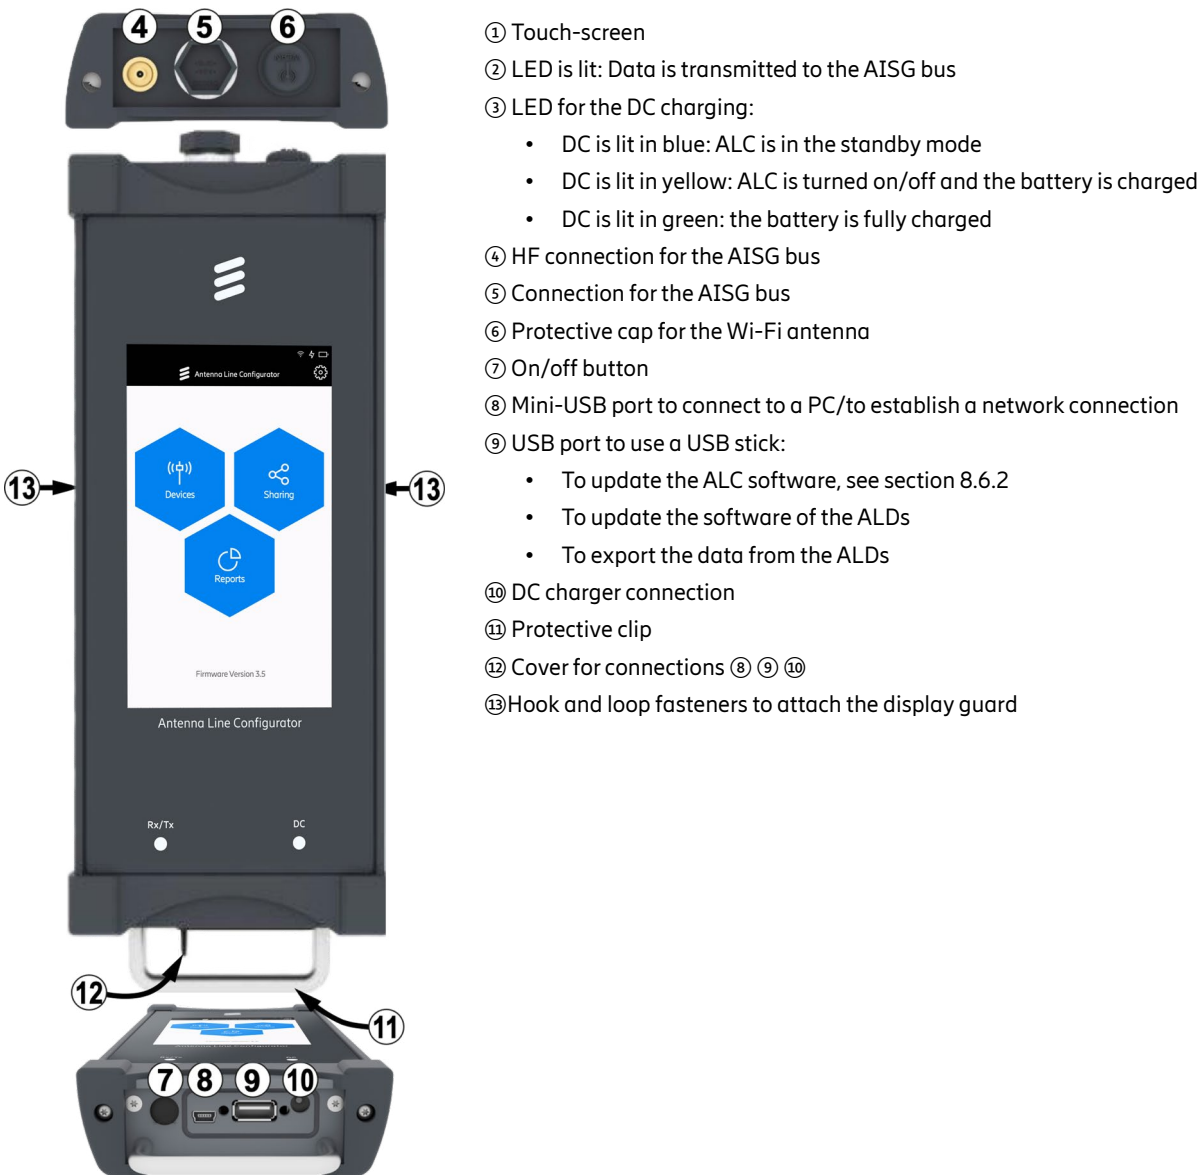

Fig. 1: Structure of the ALC
- When the battery is charged, the LED for the DC charging (3 in Fig. 1) is lit yellow.